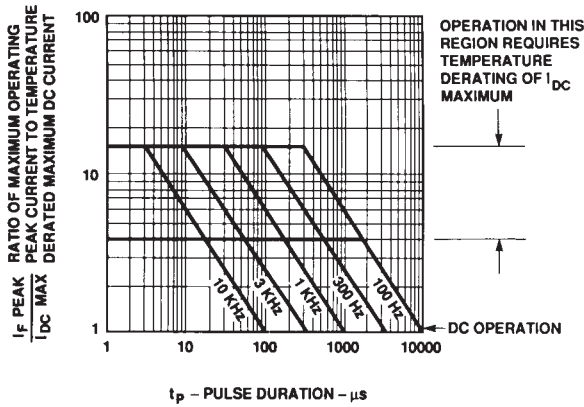

Figure 1. Maximum Tolerable Peak Current vs. Pulse Duration - AlGaAs Red.
- See Figure 1 to establish pulsed conditions.